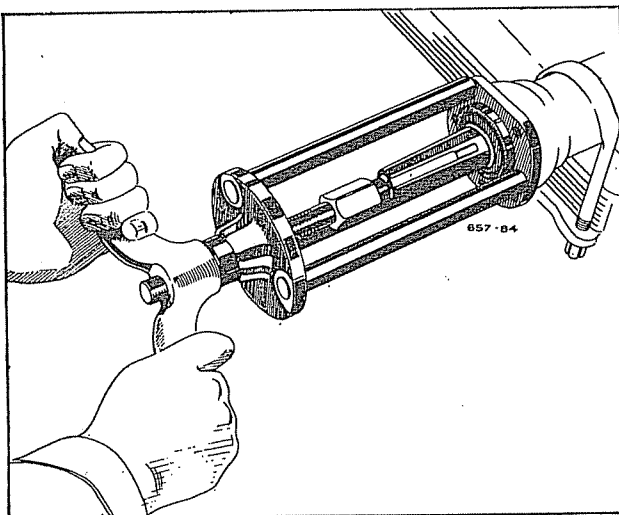

Fig. 4—Removing Axle Drive Shaft and Bearing—Tool C-158.
- (5) Remove axle shaft and bearing as shown in Figure 4.